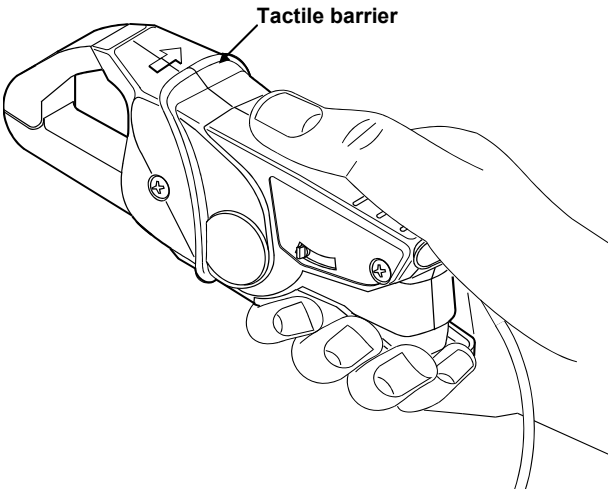

Figure 1. Safely holding the Current Clamp
- Do not hold the Current Clamp barrier, see Figure 1.